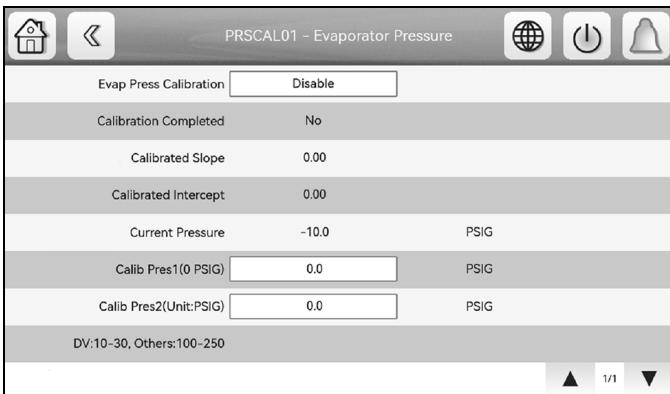

Fig. 43 — Evap Pressure Sensor Screen
2. Each transducer is supplied with 5 vdc from the IOB. Calibration is done by selecting the appropriate Pressure Sensor option on the Pressure Sensor Calib screen. The screen for the selected option is displayed. Figure 43 shows the Evap Pressure Sensor screen (PRSCAL01 as an example).